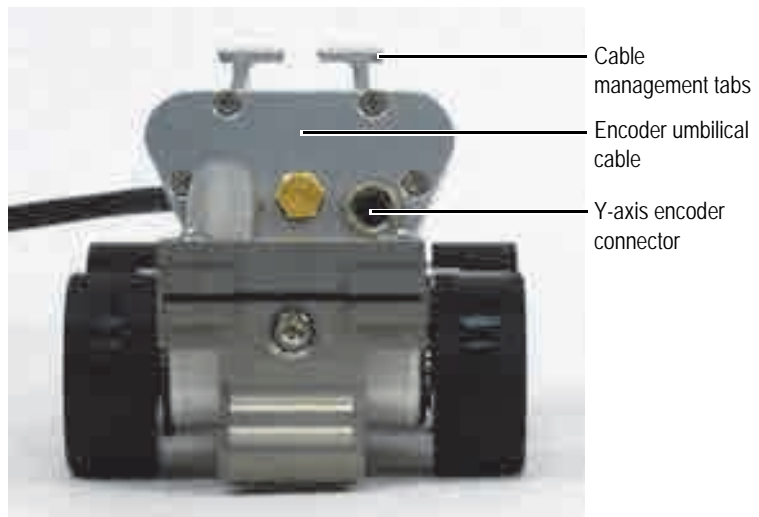

Figure 2-5 The encoder connector and the cable management tabs.
1. Connect the y-axis encoder cable to the encoder connector (see Figure 2-5 on page 25).